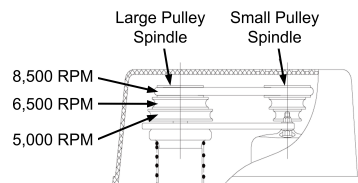

Fig. 2
2. Choose the desired speed for your drilling operation and move the belt to the indicated position. Refer to the chart inside the drive belt cover or Figure 2.